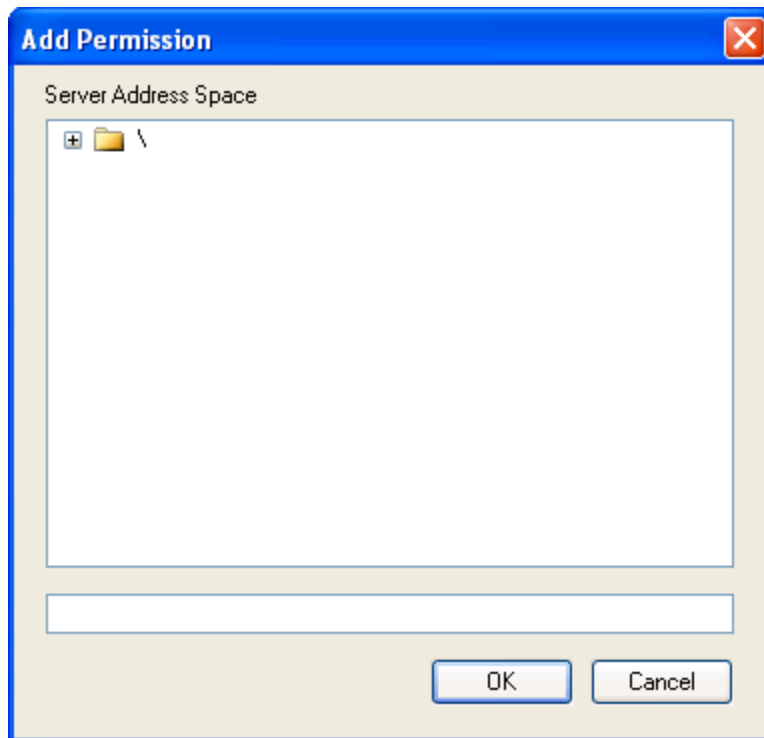

Figure 67 - Add User Permission Window
2. The **Add User Permission** window (Figure 67) appears. This window allows you to browse the OPC server address space to find either a path in the hierarchy, or a particular OPC item.